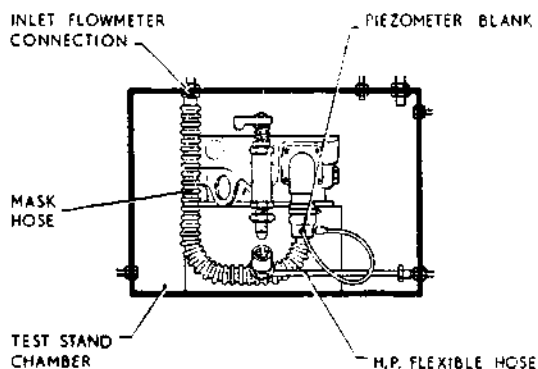

Fig. 2. Connections for relief valve flow test
(1) Connect the piezometer ring to the regulator outlet, the mask hose to the inlet adapter of the chamber and the piezometer tube to the blanking plug on the piezometer ring (fig. 2).
(2) Set the regulator shut-off valve to ON, to relieve any pressure in the regulator, then set the valve to OFF. Set the air inlet control to 100% OXYGEN and the emergency button central.